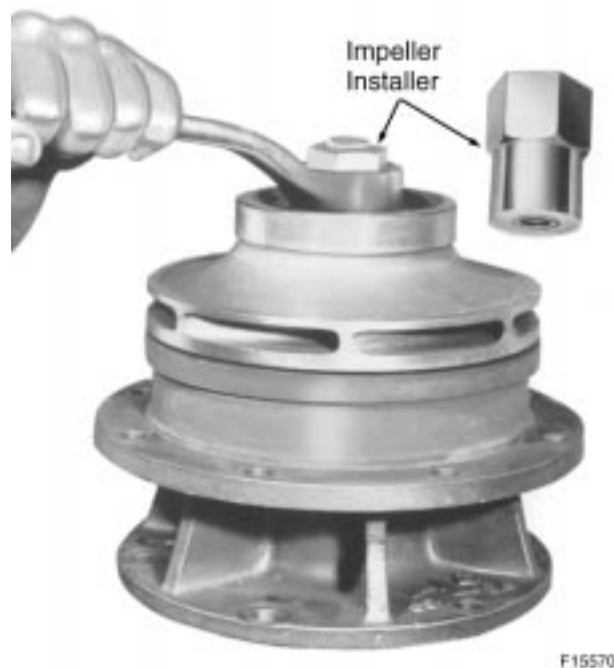

Figure 10-16. Pump Impeller Installer .
12. Figure 10-16 shows the impeller installer being used to assemble the impeller to the drive shaft in the support housing. The threaded bushing is screwed on pump shaft threads and then, by turning outer portion of installer tool, the impeller is pressed into position. Care must be taken to start the impeller straight on the shaft and to see that the key and keyway are aligned. Before the impeller is brought all the way down, check the underside to see that the seal spring is in the spring slot under the impeller and then finish the impeller application.